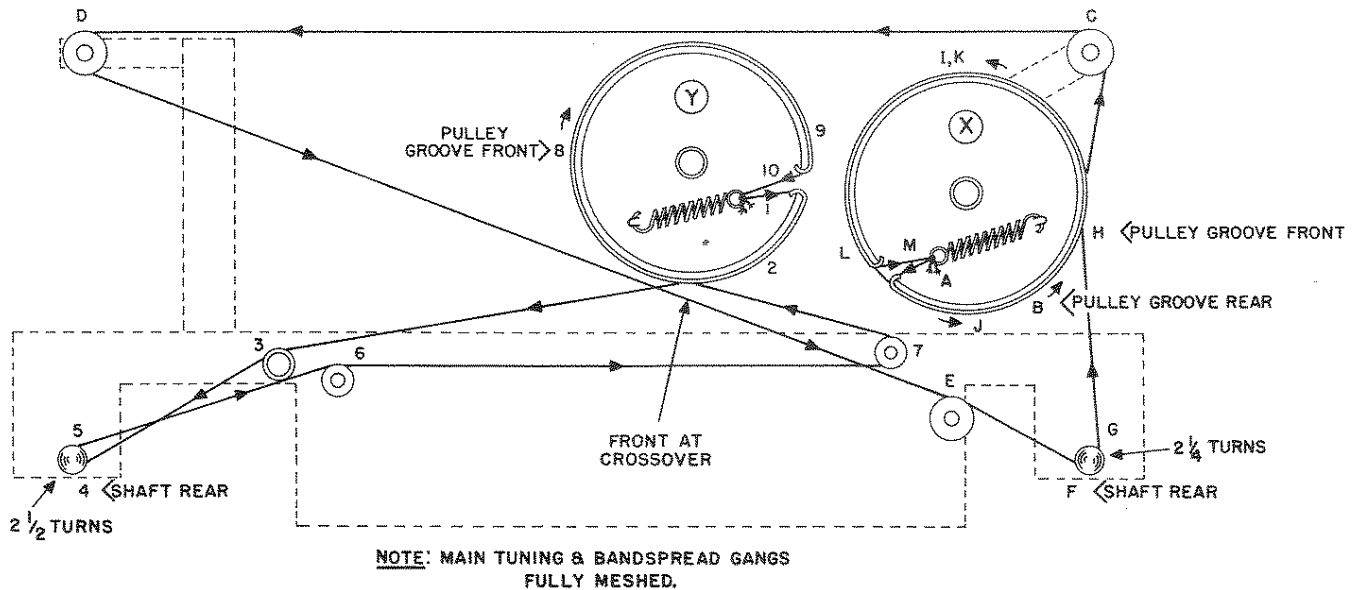

Fig. 5. Main Tuning Pointer Drive and Band Spread Gang and Pointer Drive Stringing Diagrams
- 2. MAIN TUNING POINTER DRIVE** - Refer to Fig. 5. Tie one end of a 50 inch length of dial cord to the tension spring at A on pulley (X). Follow the procedure A thru M. At M, stretch the spring and tie the cord securely. With the TUNING gang fully meshed, attach the large pointer to the cord and align it with the left hand index mark on band 1.
- 3. BAND SPREAD GANG & POINTER DRIVE** - Refer to Fig. 5. Tie one end of a 41 inch length of dial cord to the tension spring at 1 on pulley (Y). Follow the procedure 1 thru 10. At 10, stretch the spring and tie the cord securely. With the BAND SPREAD gang fully open, attach the small pointer to the cord and align it with 0 on the band spread dial scale.